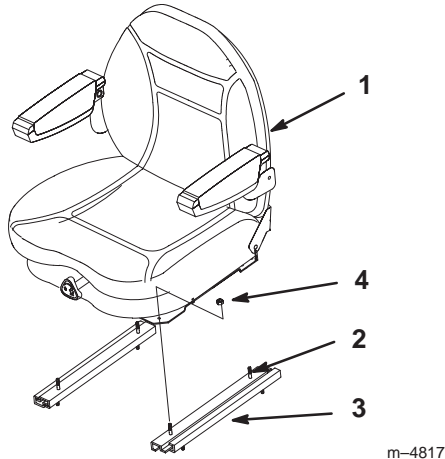

Figure 3
2. Position seat on the studs in the adjustable tracks (Fig. 3).
3. Install nuts onto studs (Fig 3).